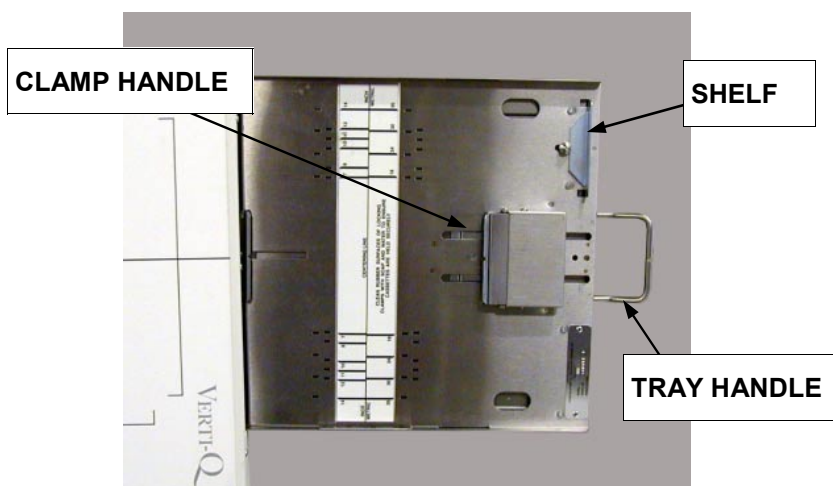

Figure 7. Poersch Cassette Film Tray
1. Pull cassette tray from Receptor Cabinet using tray handle (see Figure 7).